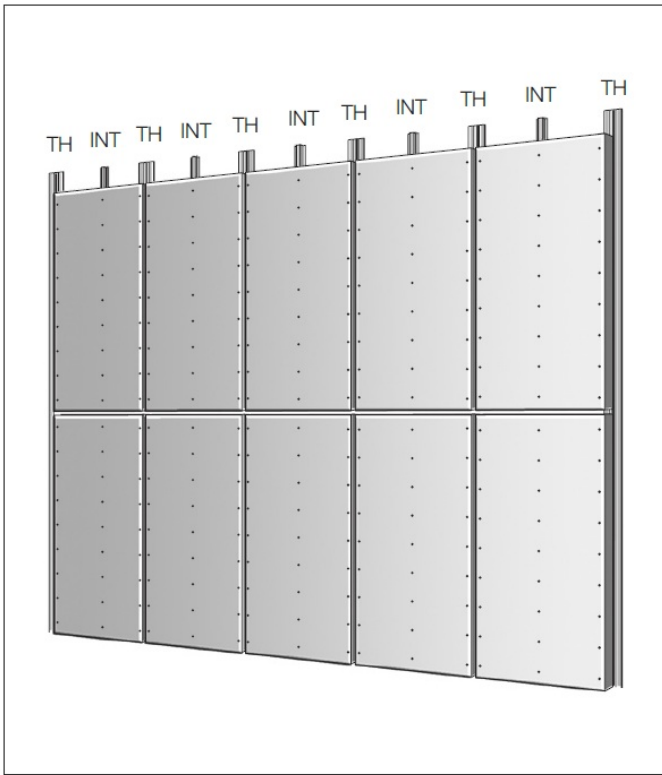

FIGURE 2 VERTICAL LAYOUT ALIGNED GRID PATTERN
- The nominal spacing between top hats is 605mm for a 1200mm wide panel and 455mm for a 900mm wide panel, i.e. top hats are required at panel edges and at intermediate spacings within the panels. The ExoTec™ Top Hats at panel edges have the legs facing out from the structure and at intermediate locations the Hardie™ Intermediate Top Hat is used, with the legs fixed to the structure, see Figure 2.
The ExoTec™ Facade Panels can be installed upright horizontally or vertically. The panel layout will determine the location of the ExoTec™ Top Hats and Hardie™ Intermediate Top Hats, see Figures 2 to 5. The vertical expressed joints may be aligned or offset in a brick pattern layout.